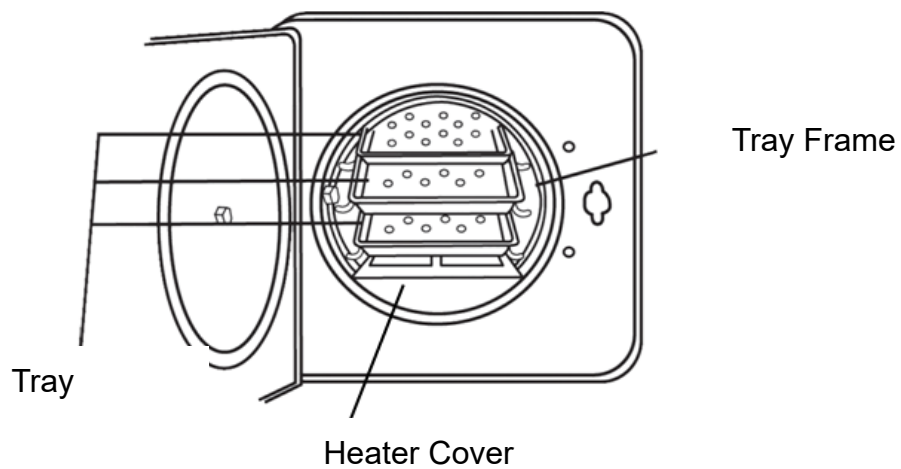

Figure 7
E. Install the tray as Figure 7. (optional accessory)